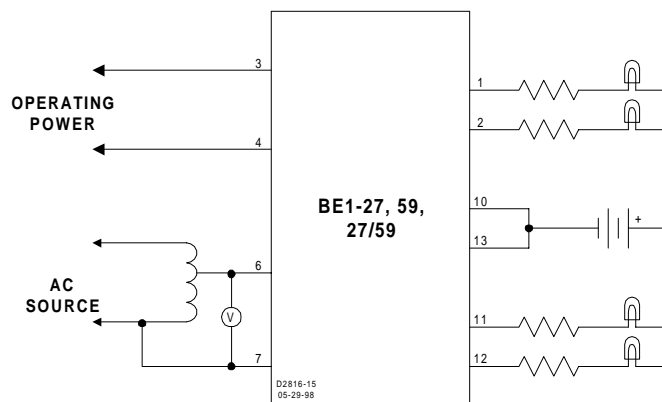

Figure 5-1. Pickup and Dropout Test Circuit Diagram
Minimum test equipment required for relay testing and adjustment is listed below. Refer to Figure 5-1 for the test setup.
Step 1. Connect the test circuit shown in Figure 5-1 as necessary for the functions included in your relay model. (See Table 5-1.) Turn all undervoltage pickup controls fully CCW and all overvoltage pickup functions fully CW. Set all time delay controls to 00. Adjust T1 to nominal voltage for your Sensing Input Range as indicated below.